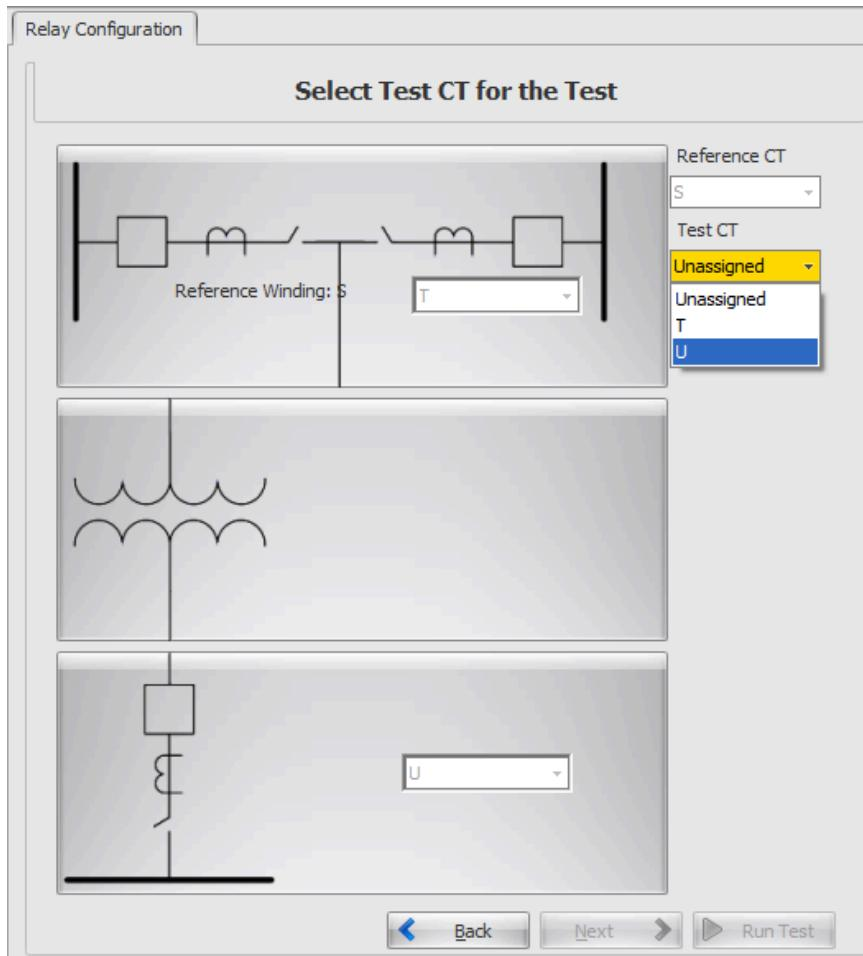

Figure 7.34 Selection of S as Reference Winding
Step 10. The final step in the configuration process is to choose a reference winding and a test winding. For example, arbitrarily select **Winding S** as reference and **Winding U** as test. *Figure 7.34* shows the selection of **S** as reference winding. Notice that the text "Reference Winding S" appears below CTS.